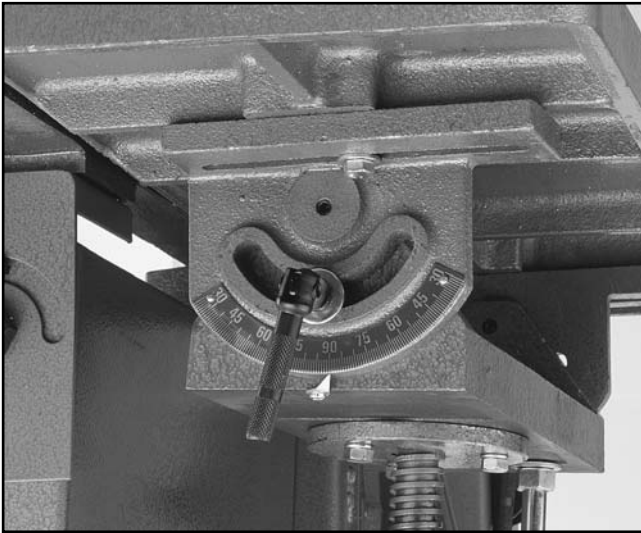

Figure 21. Table tilt adjustment.
1. Loosen the lock handles, tilt the working table to the desired angle and retighten the lock handles. **See Figure 21.**